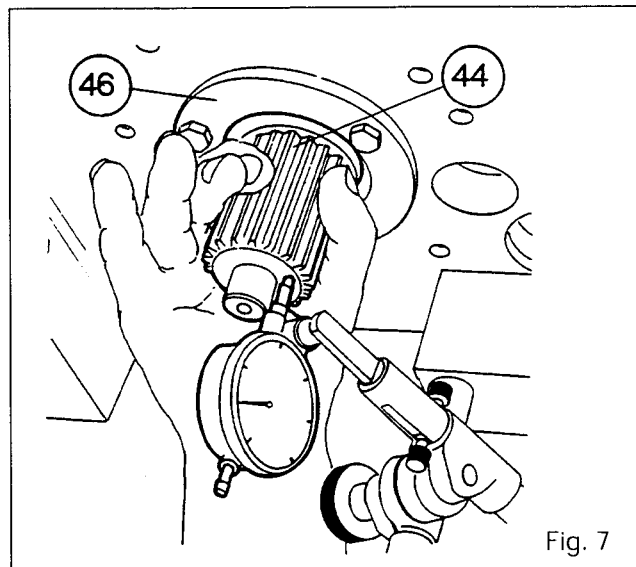

Fig. 7
23. Position the pointer of a dial gauge on the end of the shaft (44) (Fig. 7).
36. Fit the locking ring (46). Tighten the bolts (41) to a torque of 27 to 32 Nm.
37. Position the pointer of a dial gauge on the end of the shaft (44) (Fig. 7).